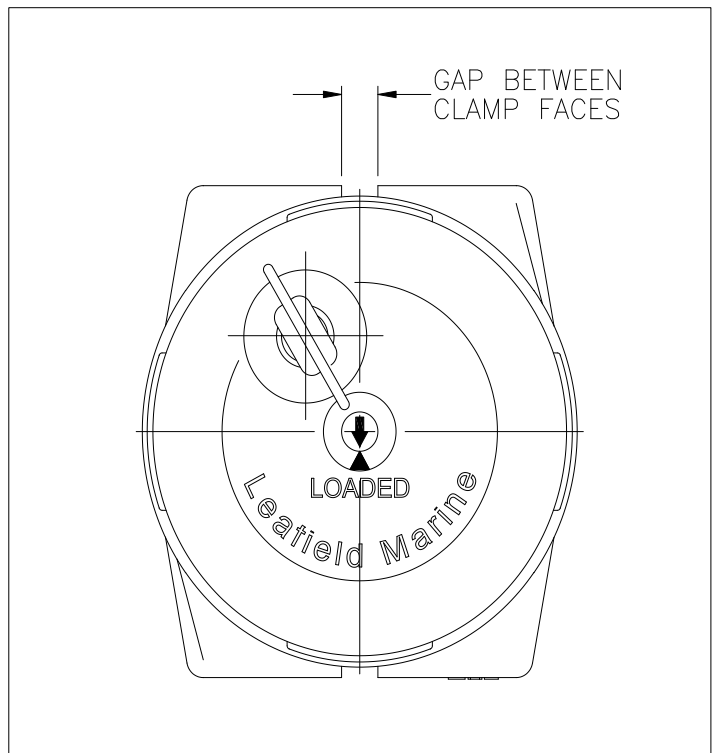

Figure 7.3
3. Check that the loaded indicator arrow on the top of the casing lines up to indicate that the unit is loaded. (See Figure 7.3). If the arrows are not aligned see SECTION 10 – RESETTING OPERATING HEAD AFTER FIRING.
IF THE CLAMP FACES MEET DURING TIGHTENING, REPLACE THE OPERATING HEAD. (SEE FIGURE 7.3).**